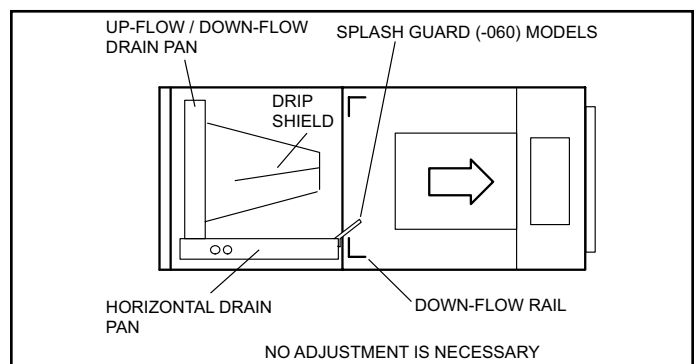

Figure 2. Right-Hand Discharge Configuration
2. Install the horizontal shield on the front edge of the horizontal drain pan as illustrated in Figure 2.